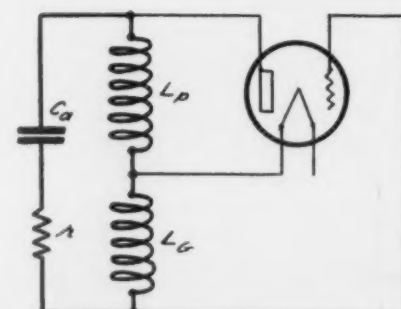
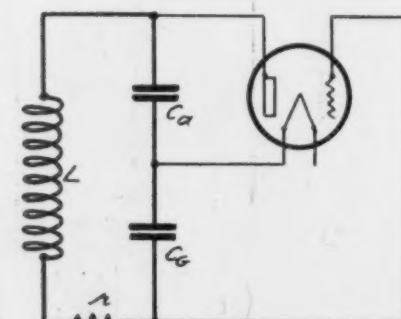

FIG. 4 HARTLEY
FIG. 6 COLPITTS
**Hartley Circuit.** The distinguishing feature of the Hartley circuit, Fig. 4, is the conductive coupling of the input or grid circuit and the output or plate circuit. This is accomplished by dividing the inductance of the oscillating circuit in that, strictly speaking, there is no mutual inductance between  $L_p$  and  $L_g$ . When such coupling exists the circuit is often referred to as the modified Hartley.
**Colpitts Circuit.** This, one of the most popular, uses capacitive instead of inductive or conductive coupling as is used in the others described. The inductances  $L_p$  and  $L_g$  in Fig. 4 become the condensers  $C_a$  and  $C_g$  in Fig. 6, the oscillating circuit inductance  $L$  also being substituted for  $C_a$  in Fig. 4. These substitutions isolate the filament from the direct current plate supply so that a shunted power feed circuit is used in the Colpitts. Furthermore, a grid-capacity-leak is necessary because the grid otherwise receives the same applied potential as the plate.